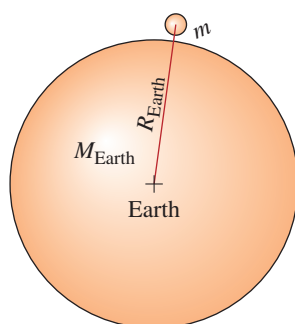

FIGURE 10.11
Using Equation (10.6), we can determine the weight of an object having a mass m , on the earth, by substituting m for the mass of particle 1 and substituting for the mass of particle 2 the mass of Earth ($M_{\text{Earth}} = 5.97 \times 10^{24} \text{ kg}$), and using the radius of Earth as the distance between the center of each particle as in Figure 10.11. Note that the radius of Earth is much larger than the physical dimension of any object on Earth, and, thus, for an object resting on or near the surface of Earth, r could be replaced with $R_{\text{Earth}} = 6378 \times 10^3 \text{ m}$ as a good approximation. Thus, the weight (W) of an object on the surface of Earth having a mass m is given by